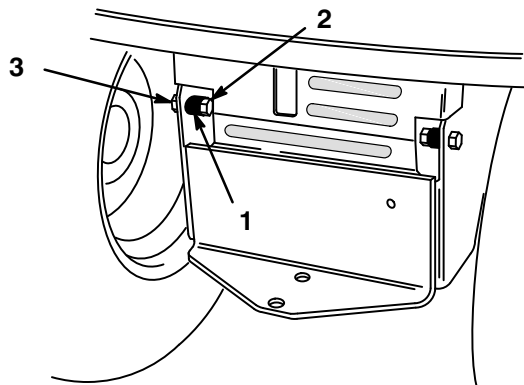

Figure 1
1. Install spacers on the inside of the tractor frame, using (2) 3/8 x 1-3/4" (44 mm) bolts and (2) 3/8" lock nuts (Fig. 1).